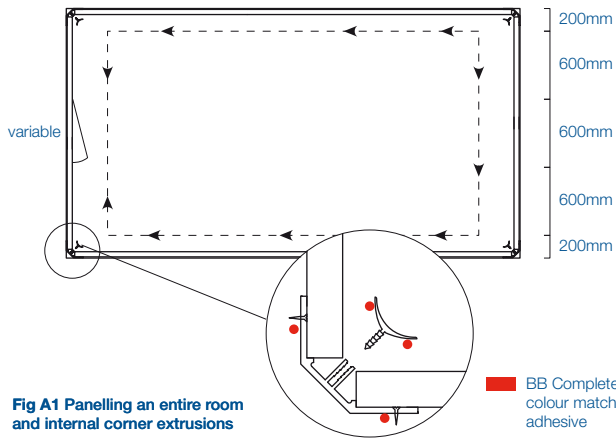

Fig A1 Panelling an entire room and internal corner extrusions
Refer to fig A1.
- 10 Repeat the procedure to install further connecting panels as shown *fig A1*.
- 1 Refer to *fig A1* - cut the 'plastic internal corner section' so that it finishes on the top of the base profile.
- 4 Refer to *fig A1* – apply beads of BB Complete as shown, offer in place, press back and screw fix using No.6 CSK stainless self tap screws and remove the internal corner section.
- 2 Apply 2 beads of BB Complete as shown in *fig A1*.